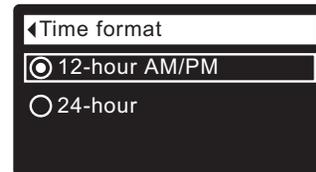

FIG. 51
1. From any of the rolling status screens, press the SELECT (O) button to display the **Main menu**.
3. Press the SELECT (O) button to display the User preferences menu.
5. Press the SELECT (O) button to display the Time format menu (See Figure 51).
6. If the desired time format already has a dot next to it (See Figure 51), go to Step 7. Otherwise, press the DOWN (▼) or UP (▲) buttons to scroll to the other time format, then press SELECT (O) to choose it.
7. Press the SELECT (O) button. The display will go back to the User preferences menu.